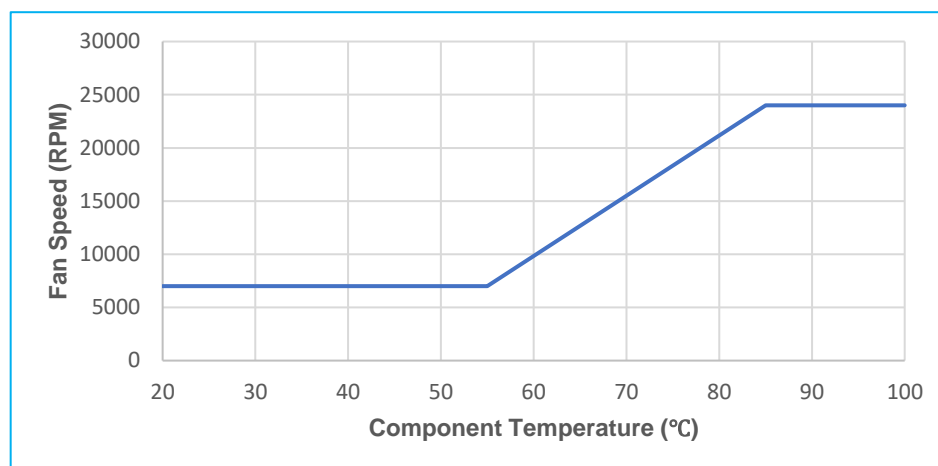

Figure 10. Fan speed versus power stage temperatures
- Fan Speed vs Component Temperature curve. Refer to Figure 10.